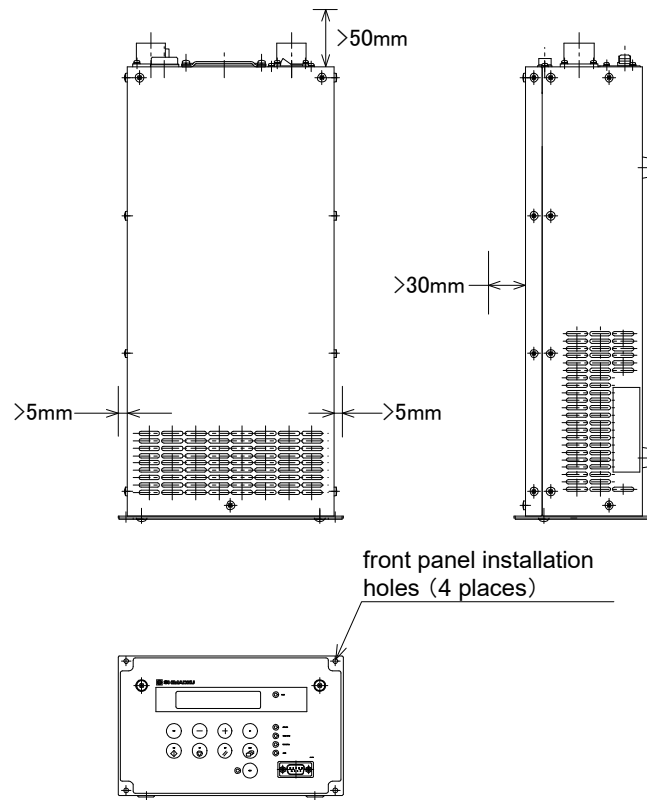

Fig. 5-1 Leave Enough Space Around the Power Supply Unit
- (3) In order to ensure that the interior of the power supply unit is cooled sufficiently, leave a gap inside the rack of at least 30 mm above, 5 mm on either side, and 50 mm to the rear of the power supply unit (Refer to Fig. 5-1).